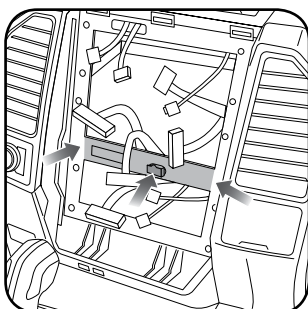

Fig. 7.0
7. Unclip the factory harness that is secured to the plastic trim at the front of the radio cavity and push it out of the way, to the back of the dash. Cut and remove the plastic sub-dash at the front of the radio cavity. (Fig. 7.0)